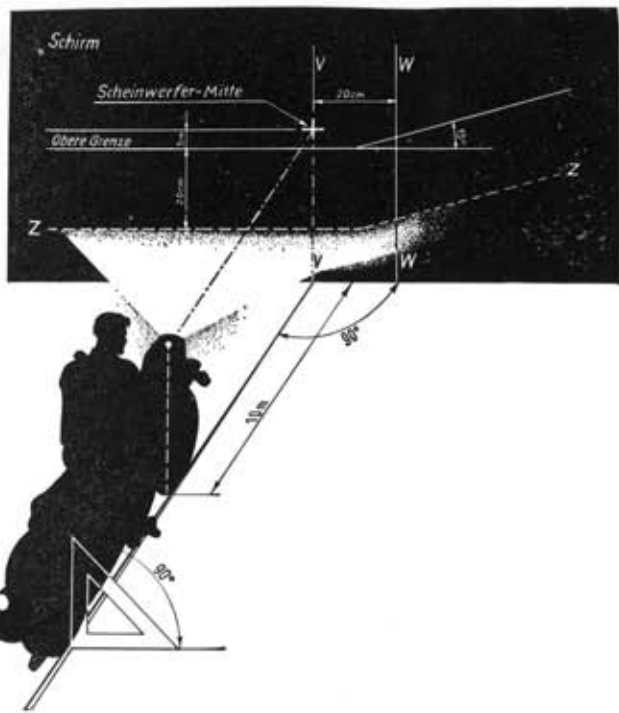

Fig. 108
By turning the adjusting screws (A), the reflector frame is moved so that the beam of light can be set to the desired position (see focusing schema, Fig. 108).